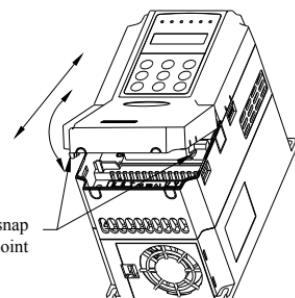

Fig.3-4 Metal cover disassemble and assembly
(2) Assembly
- 2> Interface installation claw with hook on the top of inverter, press down heavily till cover bayonet enter into the holes of two side completely, show as Fig.3-4.